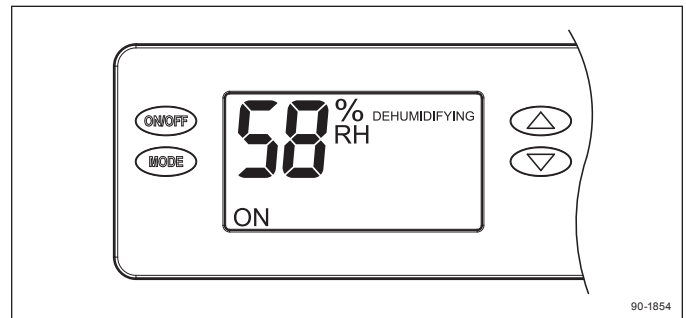

Figure 4: Dehumidifying
After sampling the air for 3 minutes, if the Relative Humidity (RH) is above the setting, the compressor turns on to dehumidify the space. **DEHUMIDIFYING** appears when the compressor is turned on (see **Figure 4**).